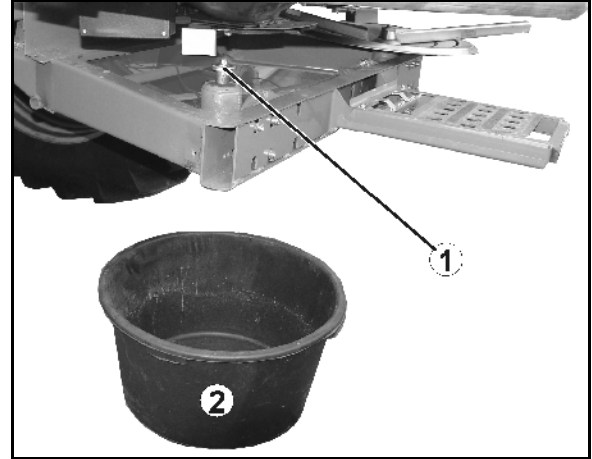

Fig. 52
2. Release thumb screws (Fig. 52/1) of the two spreader discs.
6. Place a bowl (Fig. 52/2) under the left-hand outlet opening to collect the fertiliser.